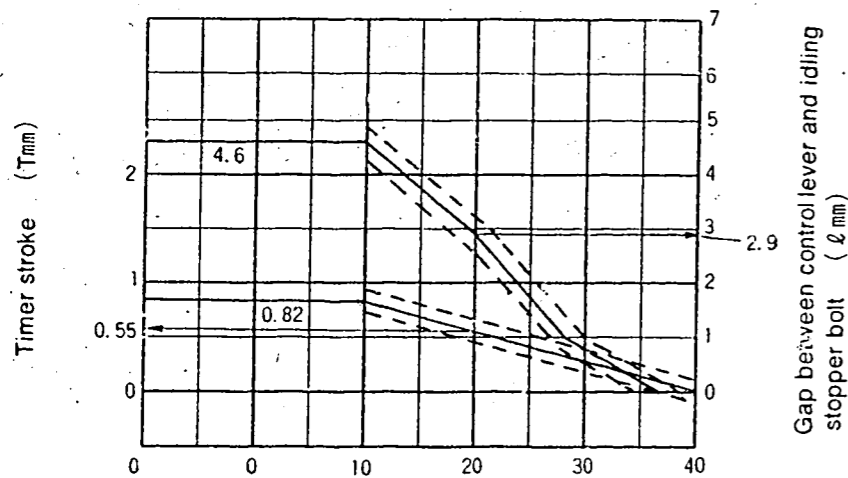

Fig. 2
1. Calculate the timer stroke from Fig. 2 according to the atmospheric temperature at the time of adjustment.
- Formula for calculating Fig. 2: $10 \leq t \leq 20 \quad T = -0.027t + 1.09$
1. Calculate the block gauge dimension $\ell \pm 0.05$ mm from Fig. 2 according to the atmospheric temperature at the time of adjustment.
2. Insert the block gauge (thickness gauge) selected in Step(1) above between the bracket and the idling stopper bolt.